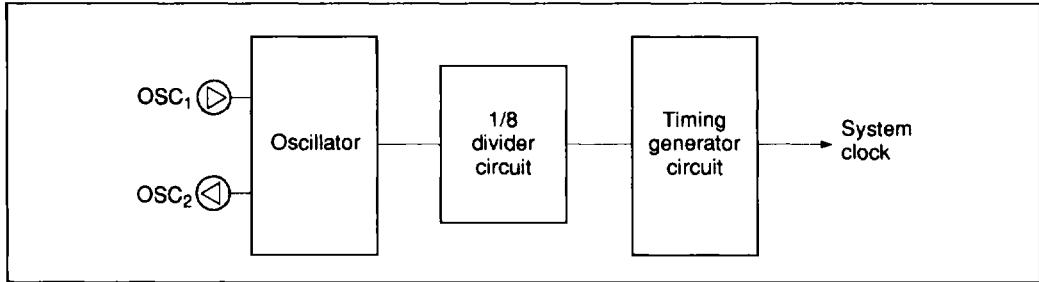
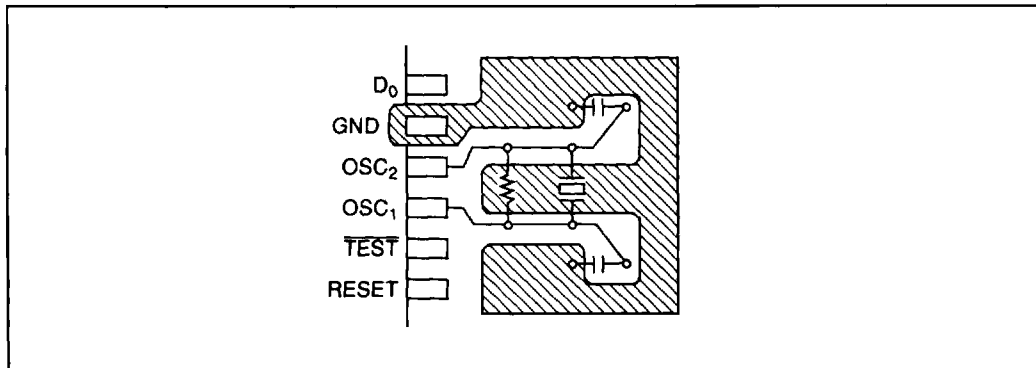

Figure 13 Internal Oscillator Circuit
Figure 14 Typical Layout of Crystal and Ceramic Oscillator
Figure 13 outlines the internal oscillator circuit. A crystal oscillator or ceramic oscillator can be selected as the oscillator type. Refer to table 13 to select the type. In addition, see figure 14 for the layout of the crystal or ceramic oscillator.
2. Wiring among OSC₁, OSC₂, and elements should be as short as possible, and never cross other wiring. Refer to figure 14.